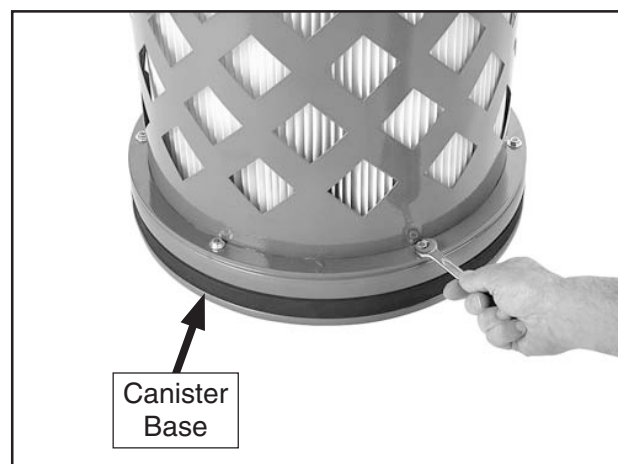

Figure 67. Removing the hex nuts and flat washers from the rim of the canister base.
5. Remove the six hex bolts, hex nuts, and flat washers from the rim of the canister base, as shown in **Figure 67**.